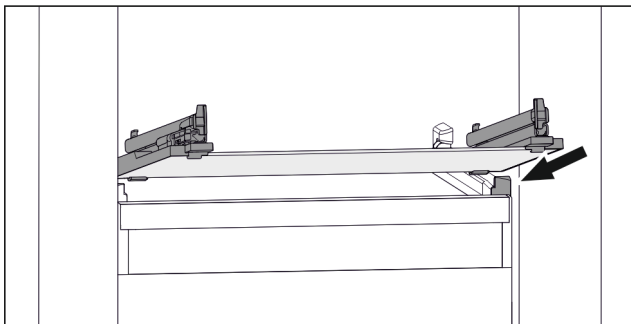

Fig. 77 Example illustration of glass shelf
- ▶ Position glass shelf at an angle behind the stoppers. (see Fig. 77)